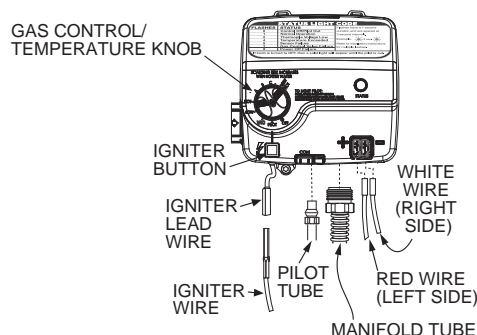
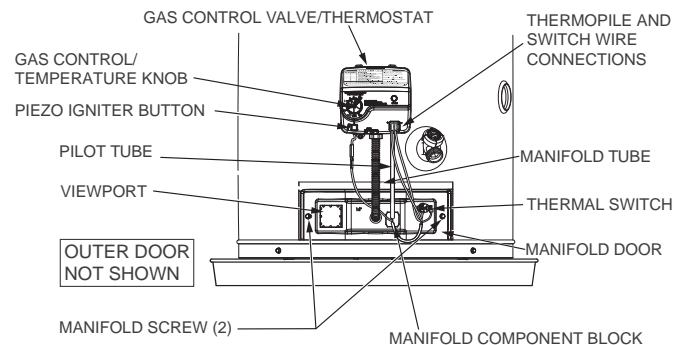

FIGURE 22.
FIGURE 23.
1. Turn the gas control/temperature knob to the "OFF" position (Figure 22).
5. Disconnect the following from the gas control valve/thermostat: pilot tube (7/16" wrench), igniter wire (from the igniter lead wire), and manifold tube (3/4" wrench). See Figure 22.
6. Use needle nose pliers to disconnect the white (-) thermopile wire from the gas control valve/thermostat (Figure 22). Next, disconnect both red thermal switch wires from the thermal switch on the manifold door (Figure 23).
8. Remove the screws (1/4" nut driver) securing the manifold/burner assembly to the combustion chamber. See Figure 23.
2. Inspect the viewport for damage and replace as required (Figure 23).
6. Reconnect the manifold tube (3/4" wrench) and pilot tube (7/16" wrench) to the gas control valve/thermostat (Figure 22). Do not cross-thread or apply any thread sealant to the fittings.
7. Connect the white (-) thermopile wire to the gas control valve/thermostat, then connect the red thermal switch wires to the thermal switch on the manifold door. (Figure 23).
8. Reconnect the igniter wire (Figure 22).
4. Disconnect the igniter wire from the igniter lead wire. Use needle nose pliers to disconnect the red (+) and white (-) thermopile wires. Disconnect the pilot tube (7/16" wrench) and manifold tube (3/4" wrench) at the gas control valve/thermostat (Figure 22). **NOTE:** L.P. Gas systems use reverse (left-hand) threads on the manifold tube.